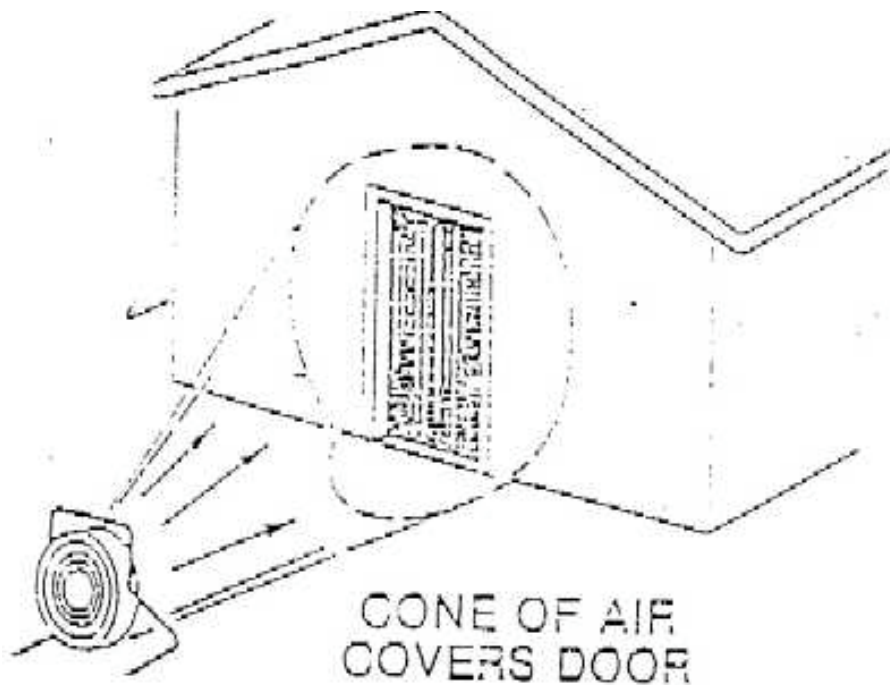

FIGURE 1
1. Place fan 5-6 feet away from door opening so as to have the entire door area sealed in a "cone" fashion. (See Figure 1.) Check for proper placement by feeling around the opening with a bare hand for air flow.